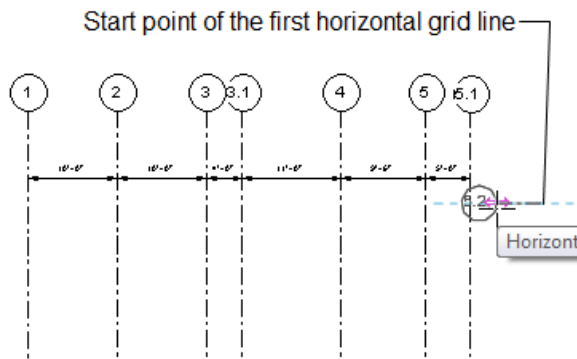

Figure 3-51 The location of the start point of the first horizontal grid line
18. Next, move the cursor toward the top right of the vertical grid line marked **5.1** and click at the location shown in Figure 3-51.